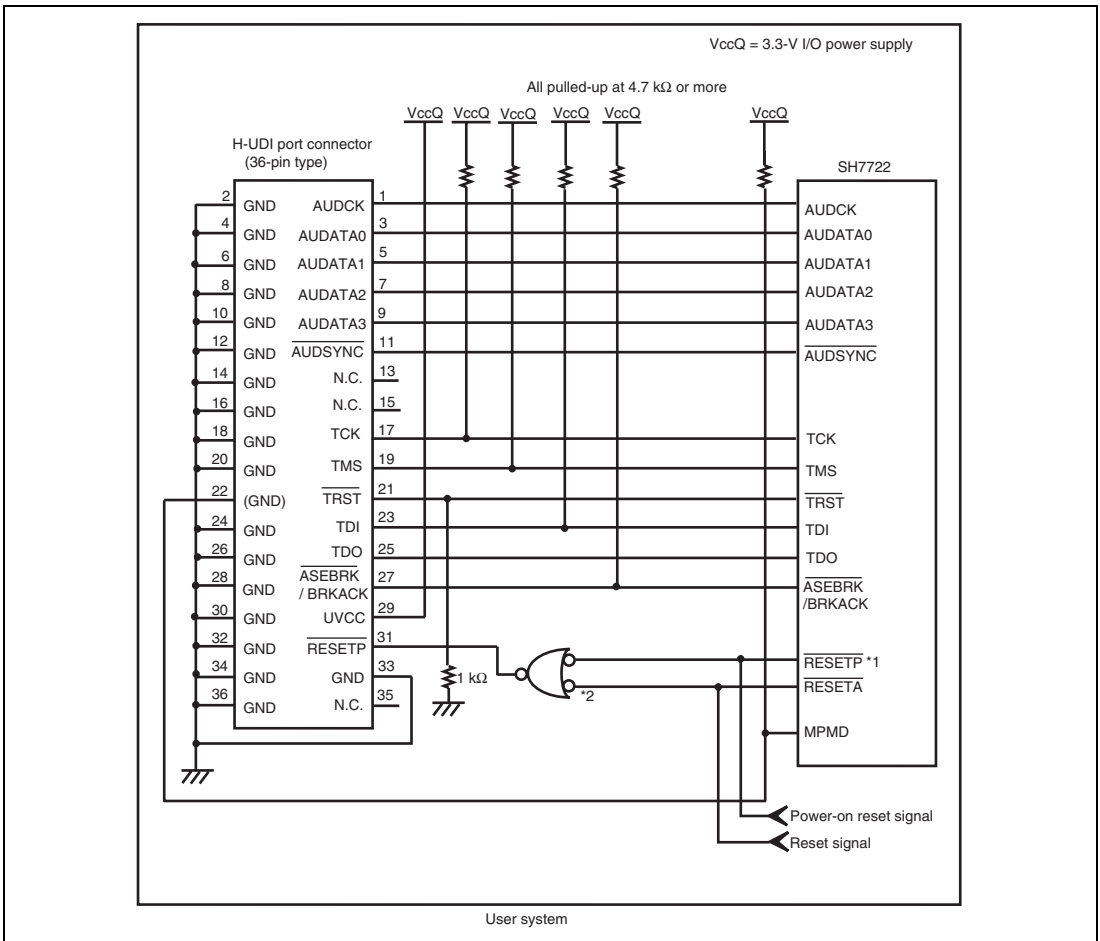

Figure 1.3 Recommended Circuit for Connection between the H-UDI Port Connector and MPU when the Emulator is in Use (36-Pin Type)
5. Connect /RESETP and /RESETA to the user system if required, as shown in figure 1.3.
Figure 1.3 shows a recommended circuit for connection between the H-UDI and AUD port connectors (36 pins) and the MPU when the emulator is in use.
- (1) When the emulator is used: $MPMD = 0$
- (2) When the emulator is not used: $MPMD = 1$Figure 1.3 shows an example of circuits that allow the MPMD pin to be GND (0) whenever the emulator is connected by using the user system interface cable.
7. The resistance values shown in figure 1.3 are for reference.
When the circuit is connected as shown in figure 1.3, the switches of the emulator are set as SW2 = 1 and SW3 = 1. For details, refer to section 3.8, Setting the DIP Switches, in the SuperH™ Family E10A-USB Emulator User's Manual.